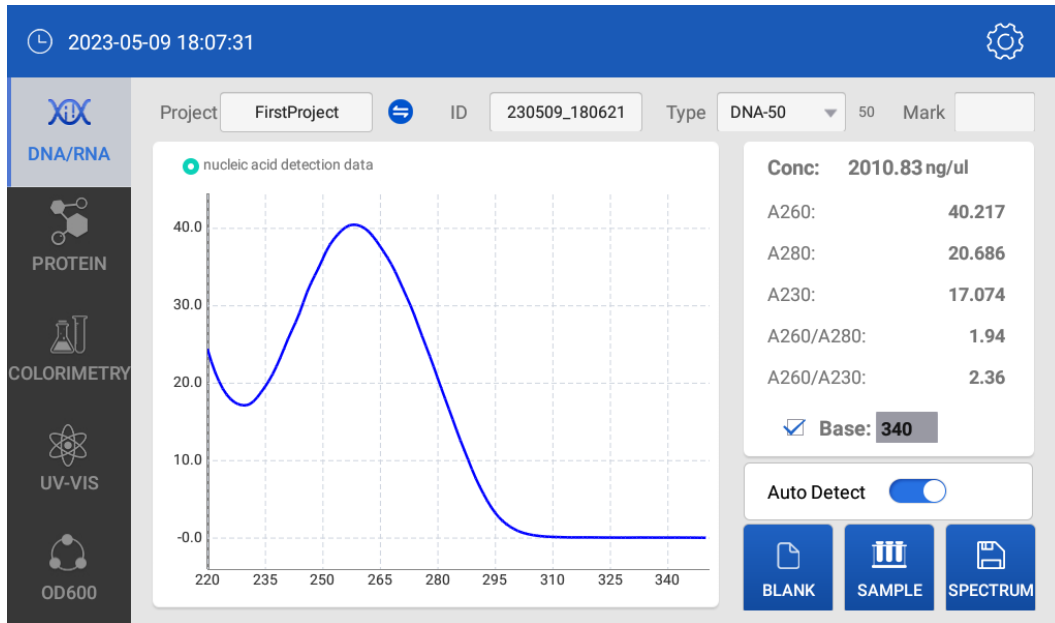

Fig 4.4 Measurement result
- ⑨  : user can input characters to mark different samples.
- ⑩  : Under condition of this function on, instrument can detect automatically once upper pedestal put down.
- ① Set the project name and sample No.:
- ② Blank with TE buffer: add 2ul TE buffer on the lower pedestal, lay down the upper pedestal and start to "Blank".
- ③ Clean the pedestals by a dust free cloth after blank.
- ④ Add 2ul sample onto the lower pedestal, lay down the upper pedestal, and press the "sample" button to measure. Fig 4.4 will show on the display after completing measurement,
- (3) from Fig 4.4, we can see the detection result by data as Fig 4.5